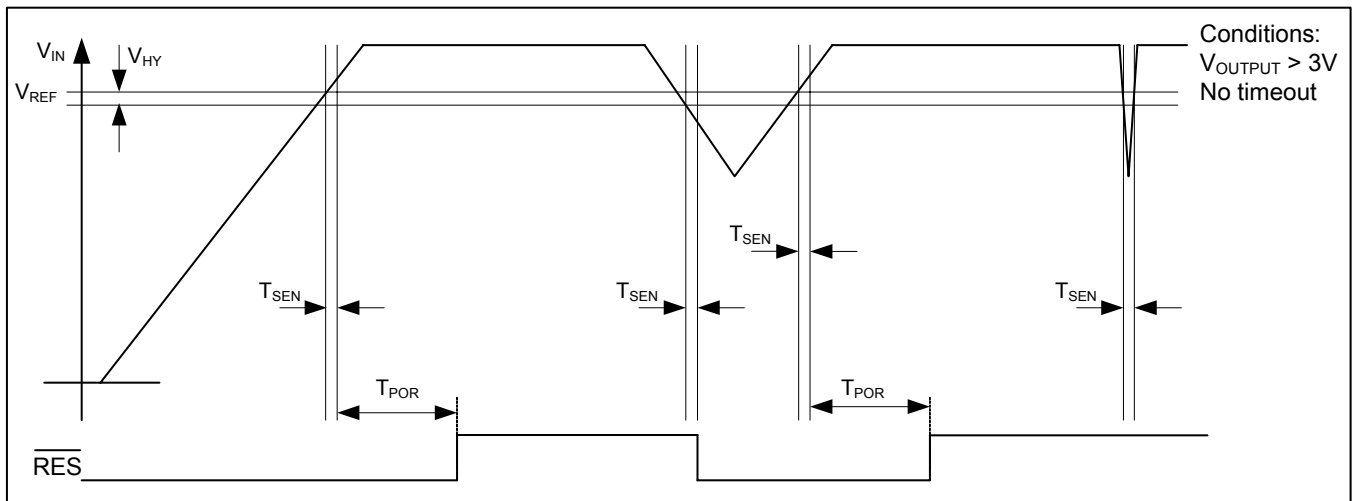

Fig. 5
- Note 6:** the comparator reference is the power-down reset threshold. The power-on reset threshold equals the comparator reference voltage plus the comparator hysteresis (see Fig. 5).
At power-up the reset output ($\overline{\text{RES}}$) is held low (see Fig. 5). When V_{IN} becomes greater than V_{REF}, the $\overline{\text{RES}}$ output is held low for an additional power-on-reset (POR) delay T_{POR} (defined with the external resistor connected at R_{OSC} pin). The T_{POR} delay prevents repeated toggling of $\overline{\text{RES}}$ even if V_{DD} voltage drops out and recovers. The T_{POR} delay allows the microprocessor's crystal oscillator time to start and stabilize and ensures correct recognition of the reset signal to the microprocessor.